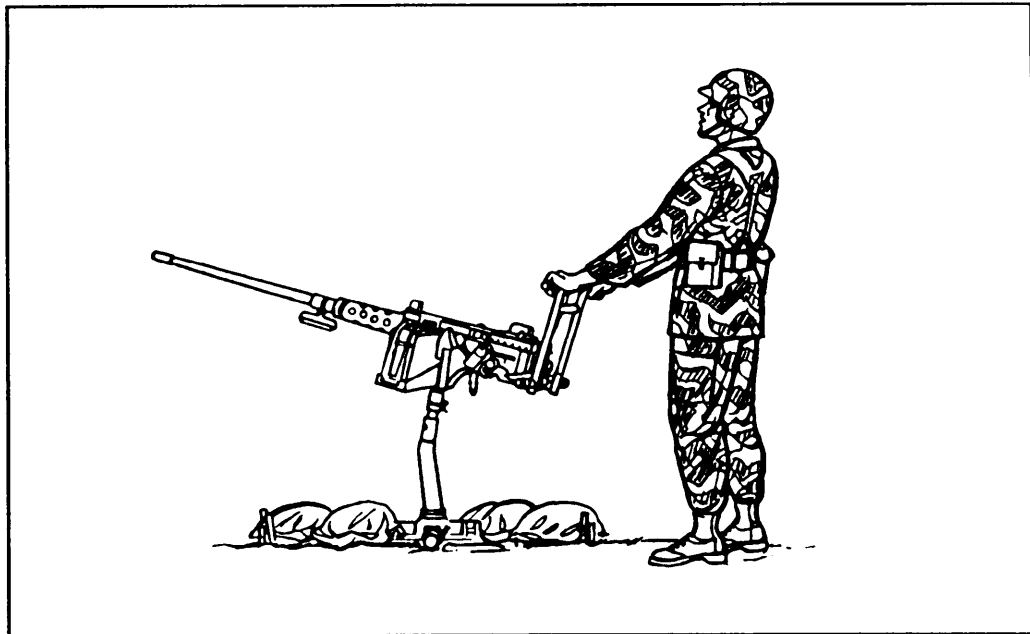

Figure 5-5. Antiaircraft firing position.
c. The anti-aircraft firing position uses a standing position when firing from the M63 mount. To assume the position, the gunner stands with his feet spread comfortably apart with his shoulders squarely behind the gun (Figure 5-5, page 5-6). When the gunner is engaging aerial targets, he grasps the upper extension handles with both hands. When engaging low-level aircraft or ground targets, he grasps the lower extension handles with both hands.